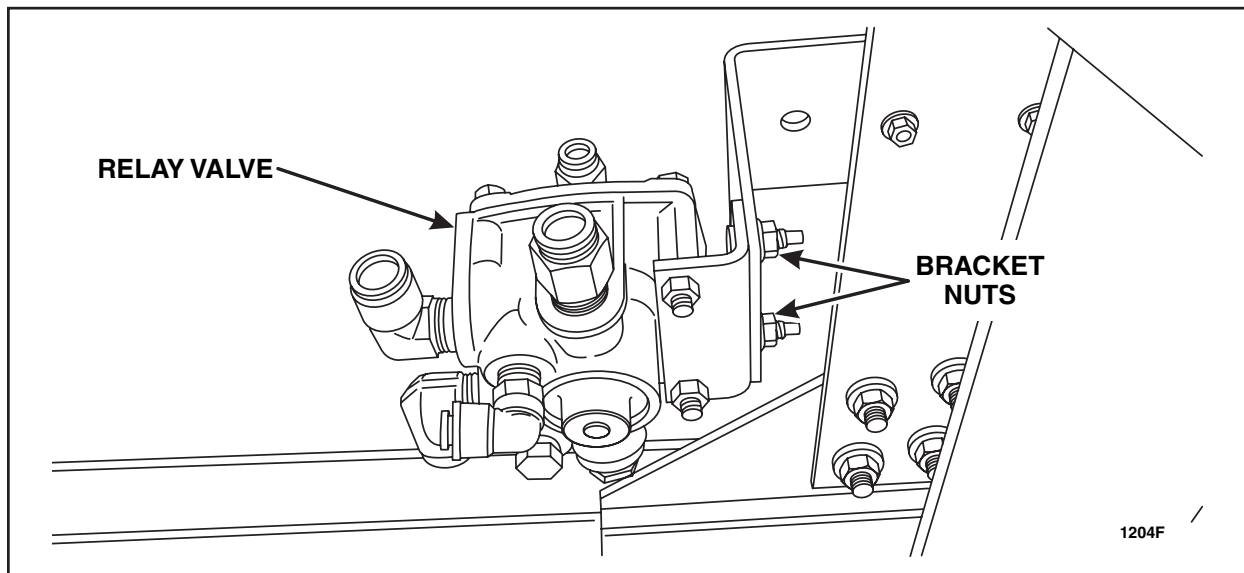

FIGURE 5
5. Mark the five (5) relay valve air tubes to their corresponding ports to aid in reassembly.
7. Remove the two (2) bracket nuts and remove the relay valve. See Figure 5.
19. Install the relay valve and the two (2) bracket nuts. See Figure 5.